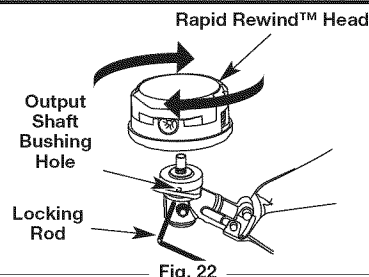

Fig. 22
1. Align the shaft bushing hole with the locking rod slot and insert the locking rod into the output shaft bushing hole (Fig. 22).
3. While holding the locking rod, remove the cutting head by turning it clockwise off of the output shaft (Fig. 22). Store the cutting head for future use.
2. Align the output shaft bushing hole with the locking rod slot and insert the locking rod into the shaft bushing hole (Fig. 22).
1. Align the output shaft bushing hole with the locking rod slot and insert the locking rod into the output shaft bushing hole (Fig. 22).